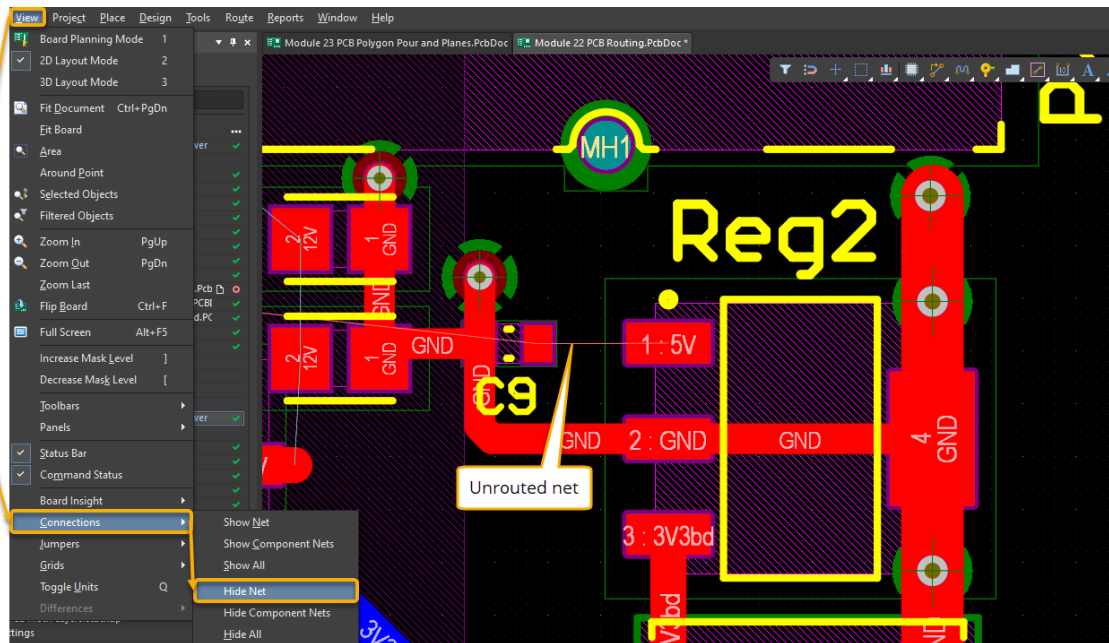

Figure 6. Unrouted 5V net
20. Start the command **View » Connection » Hide Net** or press **N » H » N**, Figure 6.